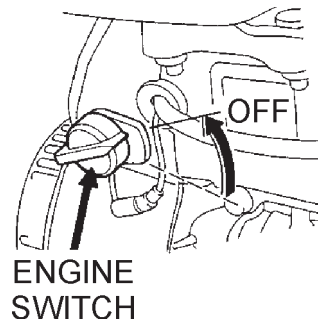

Figure 30. Engine ON/OFF Switch (OFF Position)
- After the engine **cools**, turn the engine start/stop switch to the “**OFF**” position (Figure 30).